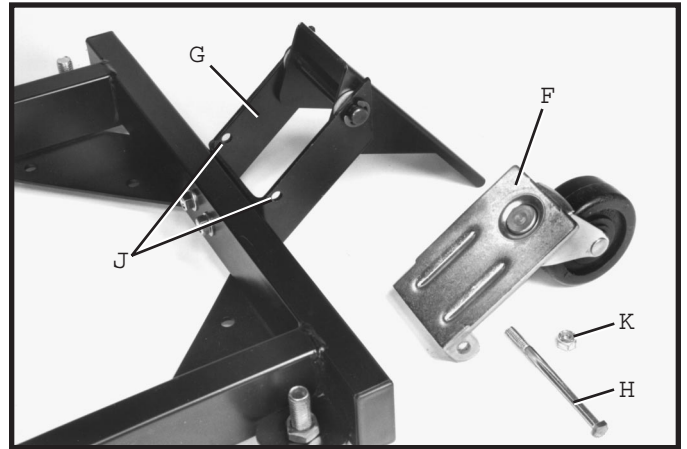

Fig. 5
2. Assemble caster assembly (F) Fig. 5, to mobile base bracket (G) using the four inch-long screw (H) through two holes (J) in mobile base bracket (G) and two holes in caster assembly (F). Fasten in place using locknut (K).
3. IMPORTANT: TO AVOID PERSONAL INJURY, ALWAYS OPERATE THE MACHINE WITH THE FOOT LEVER (A) IN THE RAISED POSITION AS SHOWN IN FIG.5.